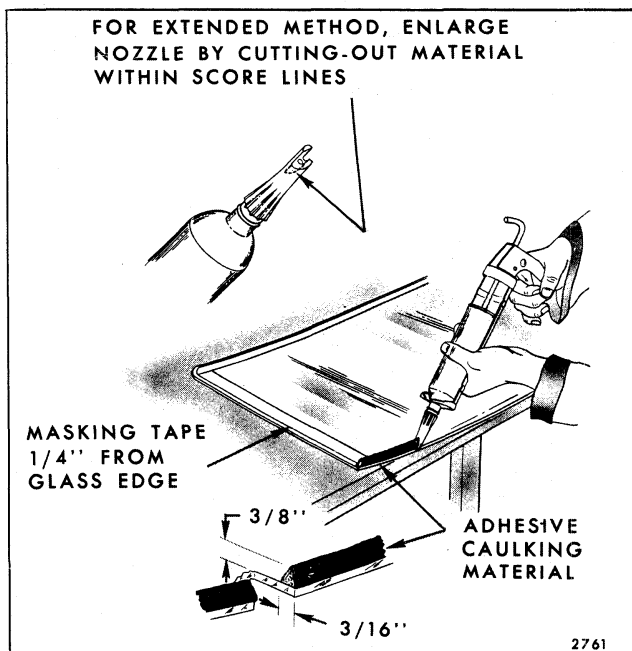

Fig. 11-10-Adhesive Material Application - Extended Method
10. If desired, apply one-inch masking tape around inner surface of glass $1/4$ " inboard from outer edge. On windshield installations, apply tape to top and sides only. Do not use tape across bottom. Removal of tape after glass installation will aid in clean-up and give a smooth, even edge to adhesive material (Fig. 11-10).
14. With caulking gun and nozzle positioned as illustrated in Figure 11-10, carefully apply smooth continuous bead of adhesive material $3/8$ " high by $3/16$ " wide at base completely around inside edge of glass.